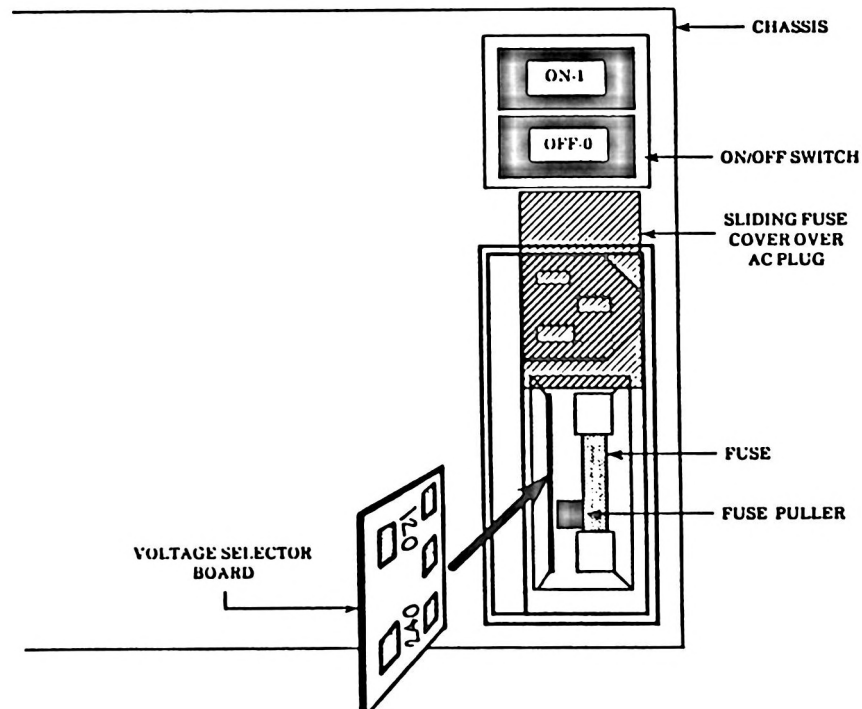

Figure 5-1. Changing the Fuse and Voltage Selector
The AC line filter, where you plug in the power cord, also houses the fuse and voltage selector board. Figure 5-1 shows the location of these parts. Since you must remove the fuse to change the voltage selection, the six steps in this section explain how to perform both tasks.
2. Slide the fuse cover up to expose the fuse and voltage selector board, shown in Figure 5-1. The AC plug must be removed before this panel can slide.
5. Select a new voltage setting and install the board. Four numbers are printed on this board: 120 and 240 on one side, and 100 and 220 on the other side. Replace the board so that the voltage number you choose faces you when you install the board. Figure 5-1 shows how to orient the board to select 120 volts (the default selection). Push the board firmly back into place until the fuse-pull lever is free to drop down.